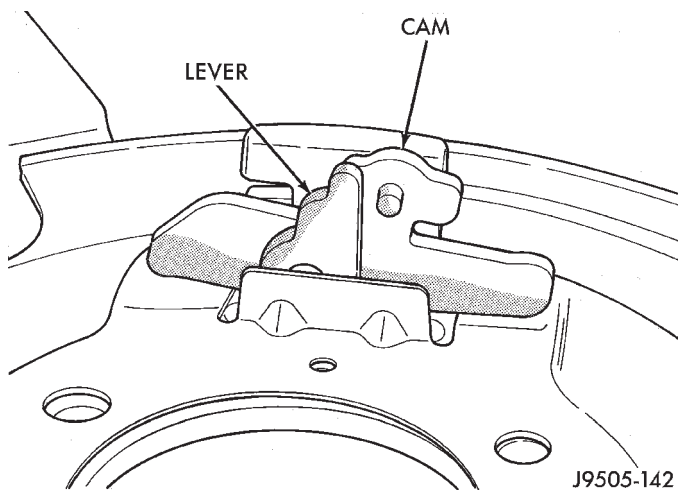

Fig. 56 Cam And Lever Installation
(5) Apply Mopar Lock N' Seal (or Loctite 242), to axle tube stud nuts. Then install and tighten nuts to 43-61 N·m (32-45 ft. lbs.).
(6) Assemble and install cam and lever. Push lever through boot and seat cam between lip on shield and ledge on bracket (Fig. 56). Then engage lever in cable eyelet. Be sure cable notch in lever is facing rearward. Remove and reposition cam and lever if necessary.